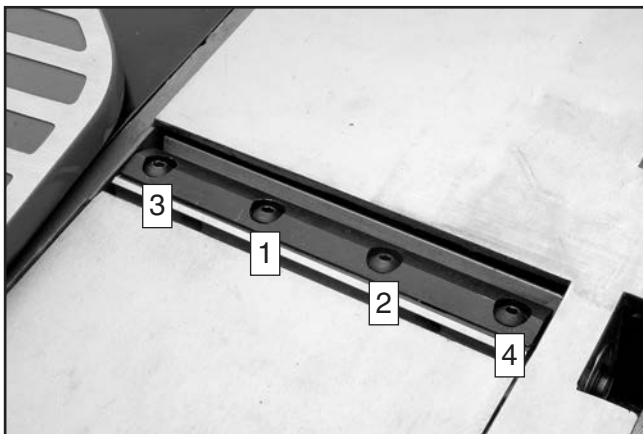

Figure 41. Knife clamp screw tightening sequence.
8. When knife heights are set correctly, fully tighten each of the knives' clamp screws according to the tightening sequence shown in **Figure 41**.